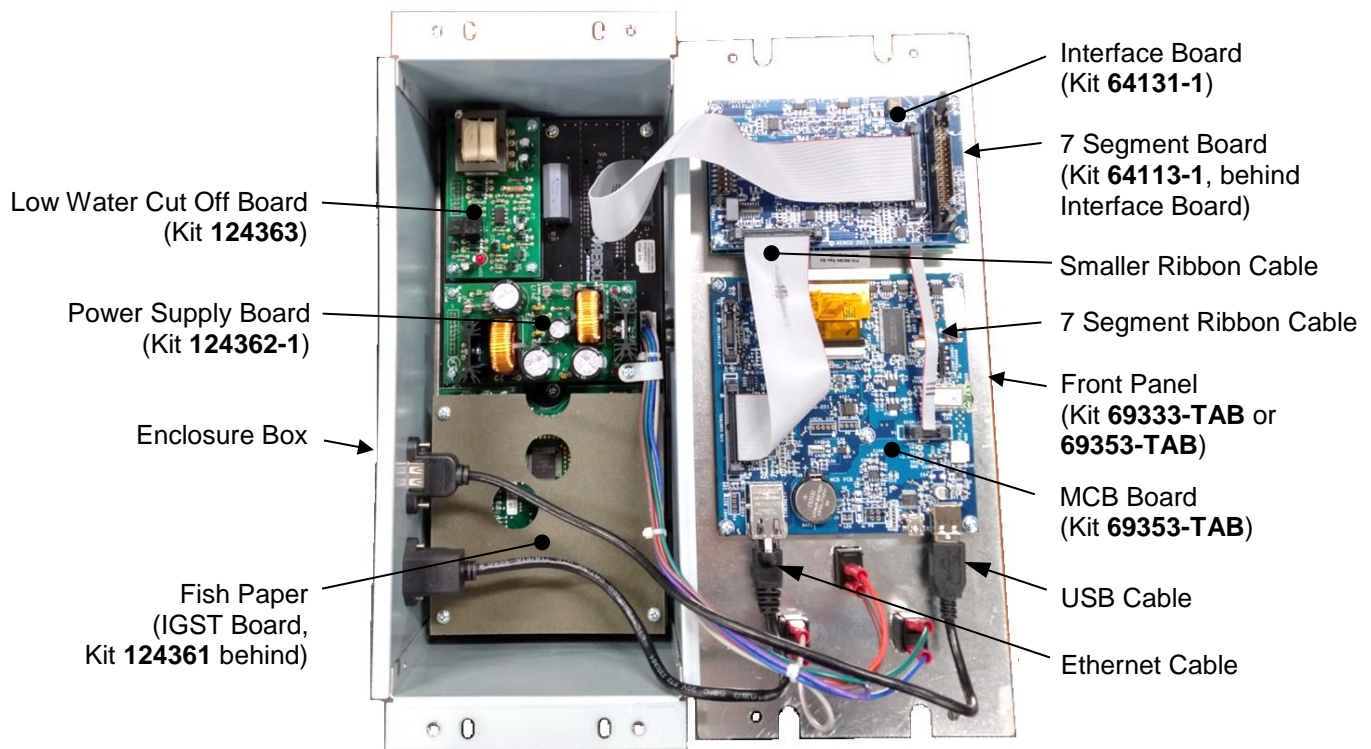

Figure 8 – Edge [ii] Controller – Opened
To reattach the smaller ribbon cable (see Figure 8) to the Interface Board, push the tabs half way closed before pressing the ribbon cable's connector down on the pins. If the tabs are fully open, the connector won't seat properly. Once fully seated, close the tabs over the connector.
4. To replace the IGST Board (Kit **124361-1**), remove the screws holding the Fish Paper in place (see Figure 8, above), then remove the four (4) Hex Stand-offs on which the Fish Paper is mounted. The IGST Board can then be lifted out of the Enclosure Box.
5. Unplug the USB and Ethernet cables from the MCB Board (see Figure 8, above). NOTE: the Ethernet cable has a plastic tab that must be pushed down before the cable can be removed.
7. Turn the Controller on its left side (USB and Ethernet ports down), then remove 8 (eight) of the nine (9) screws from the Controller's back surface holding the Connector Board in place.